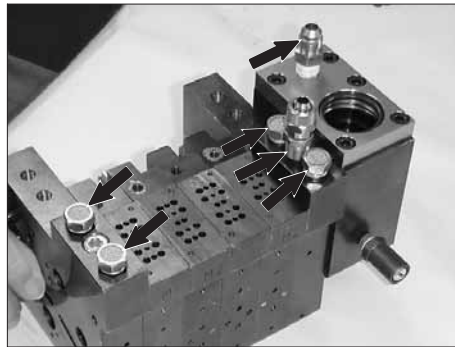

Figure 7-56 Various plugs and fittings
12. See Figure 7-56. Remove the various plugs and fittings.